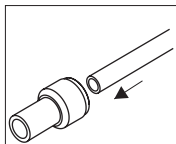

Fig. 4
- 1) Push the tubing into the quick connection fitting (correctly installed tubing is recessed by 1.5 cm in the quick coupling fitting) (fig. 4).